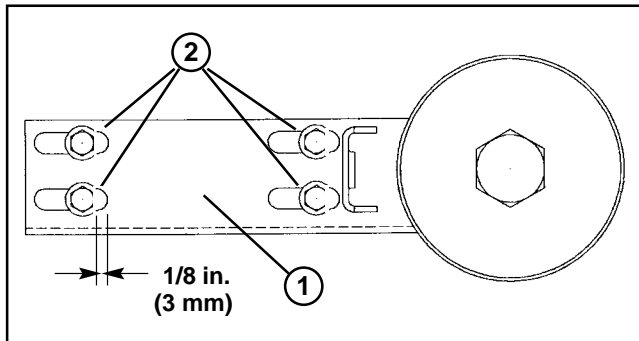
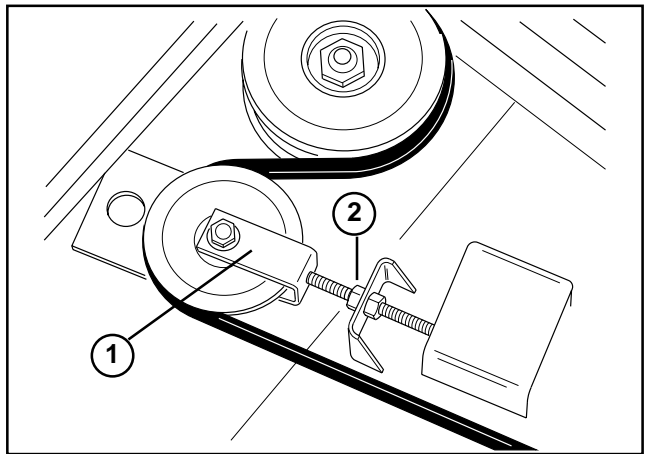

Figure 9A
Figure 9B
3. Note position of shoulder bolts in slots in tension plate. Optimum belt tension will be maintained when the flanges on the shoulder bolts are 1/8 in. (3 mm) from the pulley ends of the slots (Fig. 9A). If the shoulder bolt flanges are more than 3/8 in. (9 mm) from the pulley end of the slots, an adjustment should be made.
4. To adjust, loosen jam nuts (Fig. 9B) and extend tension arm until the shoulder bolt flanges are within 1/8 in. (3 mm) of the pulley end of the slots (Fig. 9A).